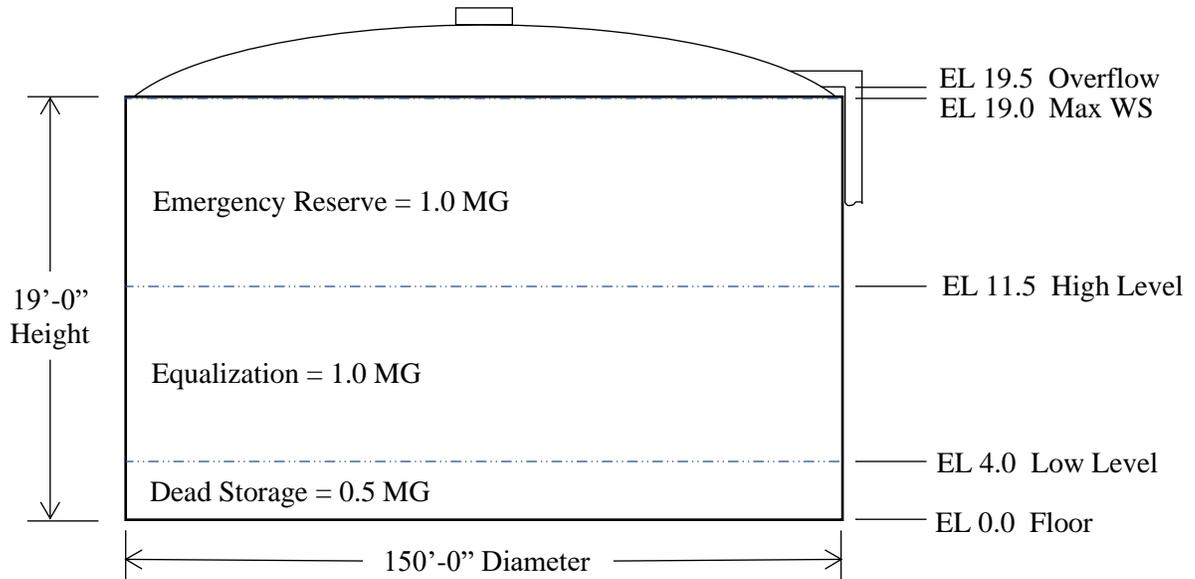

Figure 4: Profile of a 2.5 MG equalization tank with elevations and volumes.
Step 5 is to create a profile of the tank(s) with the volumes calculated in Steps 2 and 3 and the preliminary tank dimensions in Step 4. See Figure 4 for an example.